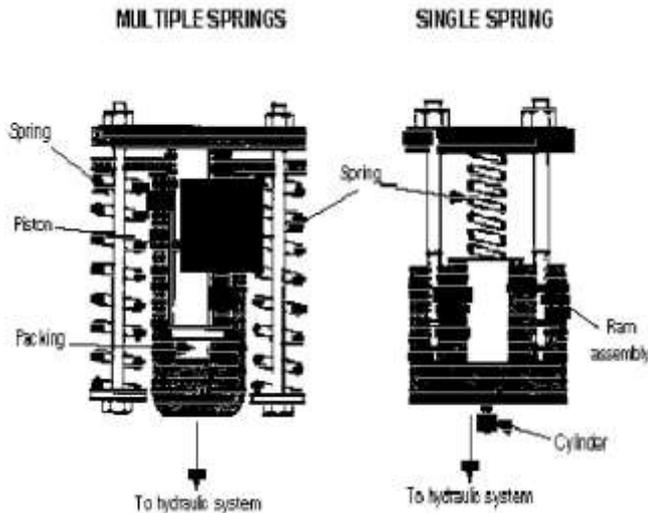

Figure 3
a. Spring-Loaded Accumulator. This accumulator is used in some engineer equipment hydraulic systems. It uses the energy stored in springs to create a constant force on the liquid contained in an adjacent ram assembly. Figure 3 shows two spring-loaded accumulators. The load characteristics of a spring are such that the energy storage depends on the force required to compress a spring. The free (uncompressed) length of a spring represents zero energy storage. As a spring is compressed to the maximum installed length, a minimum pressure value of the liquid in a ram assembly is established. As liquid under pressure enters the ram cylinder, causing a spring to compress, the pressure on the liquid will rise because of the increased loading required to compress the spring.